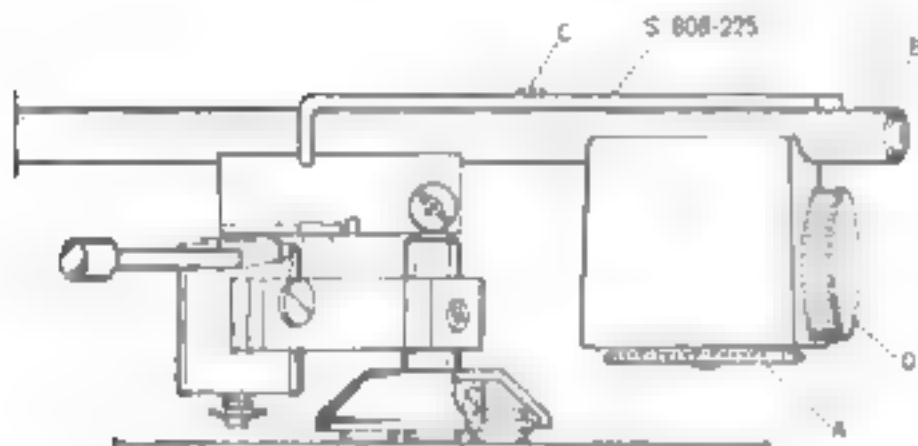

Fig. 8. Rear part of the pick-up arm.
- a) Place the counterweight underneath the pick-up arm extension B, the sliding tube entering the corresponding hole on the counterweight (see Fig. 8).
- a) Place the stylus force calibration plate (part S 808-225) on top of the pick-up arm extension ■ according ■ Fig. 8 and 9, with pin C on the arm extension in the slot of the calibration plate. Position the calibration plate with pin C ■ the indentation of the scale corresponding to the stylus force recommended by the cartridge manufacturer. Each indentation corresponds to 1/4 gram.